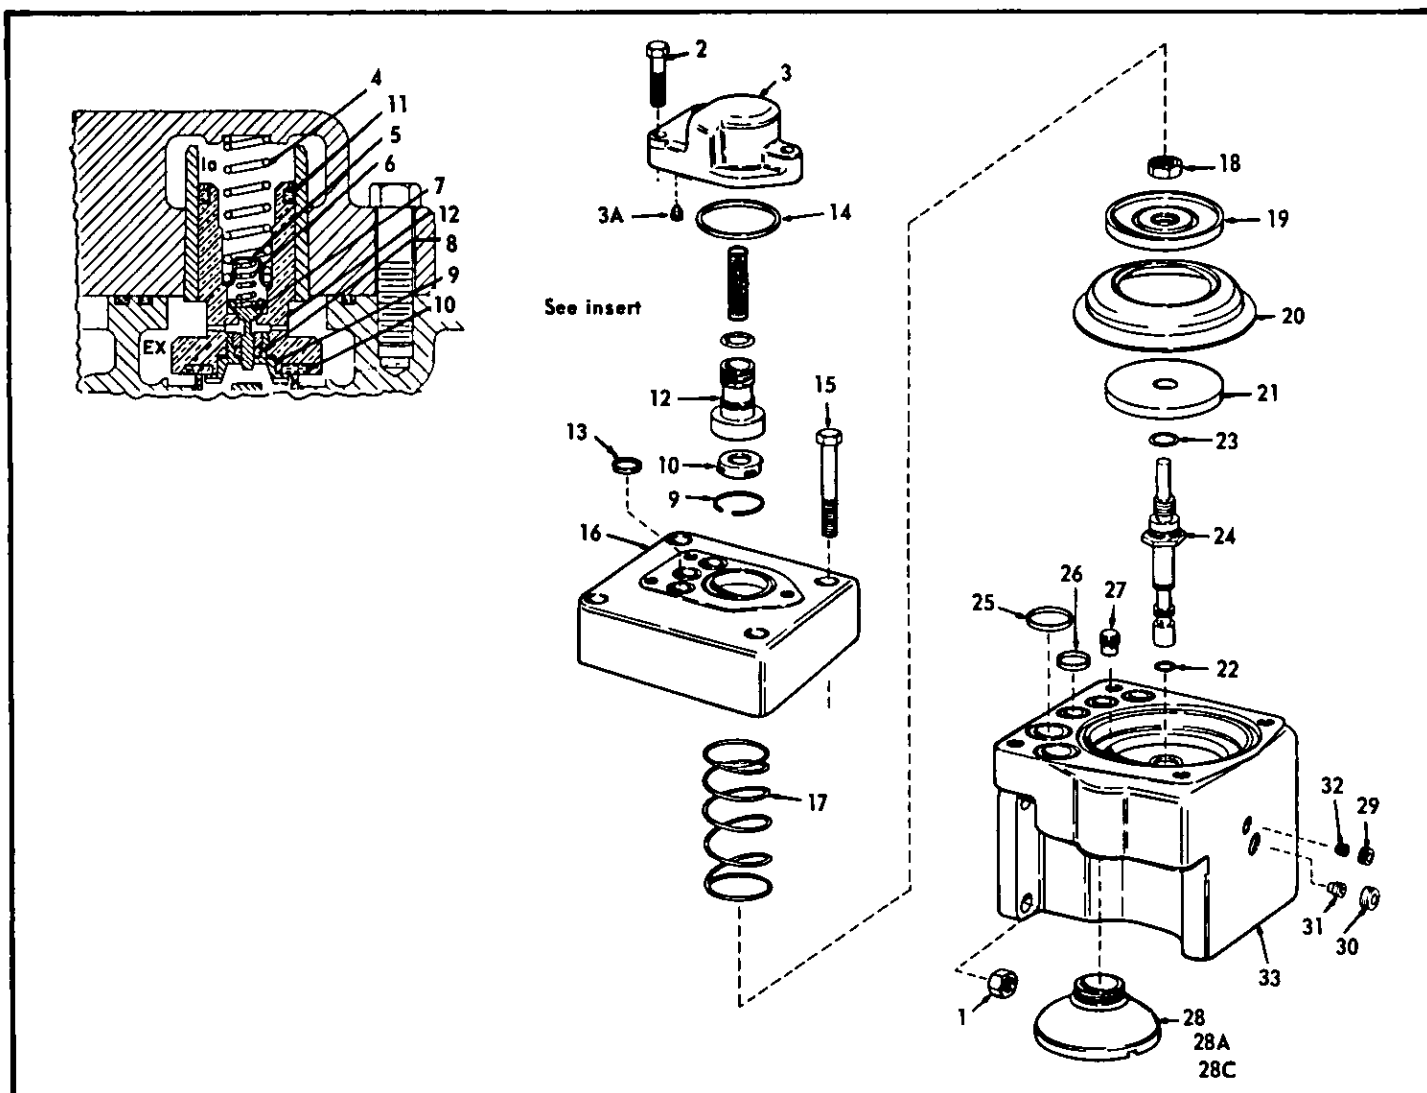

FIGURE 1 - EXPLODED VIEW
(Refer to Figure 1)
- c. **IMPORTANT:** (Refer to Figure 1) THE STRAINER AND CHOKE (3A) LOCATED IN THE COVER (3), THE STRAINER AND CHOKE (27), CHOKE PLUGS (32) AND (31) (ON VALVE PORTIONS SO EQUIPPED) LOCATED IN THE